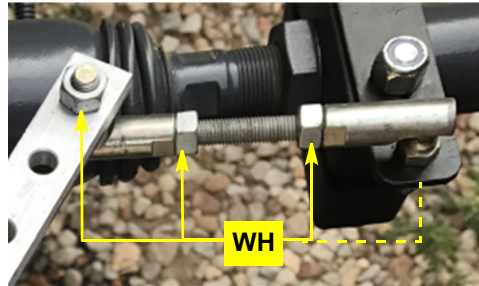

Figure 2f: Tighten rod and swivel nuts
- f. When the linkage does move freely and without binding, tighten nuts **WH** on the rod and the swivels (Figure 2f).